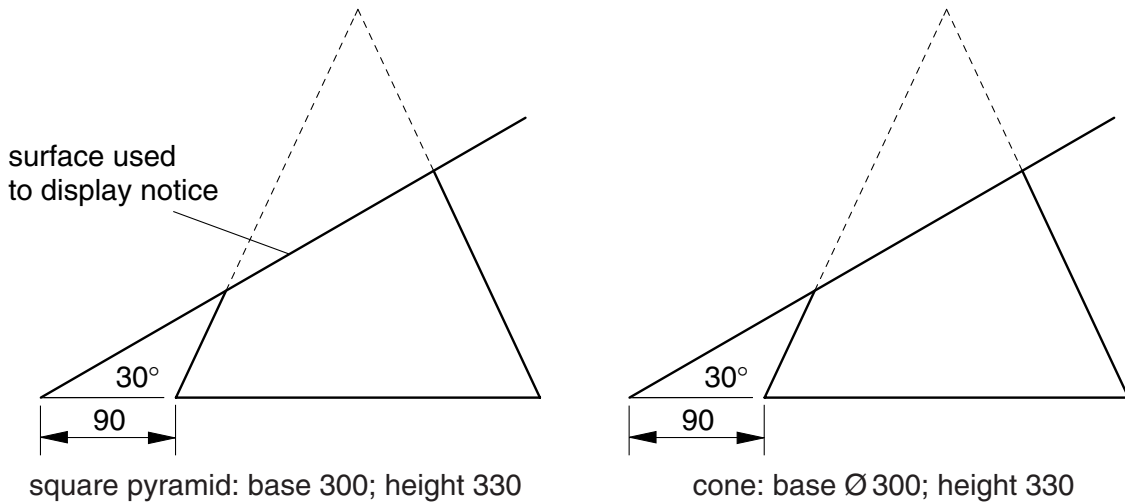

Fig. 8
- 8 Two models are required to help inform youngsters about the dangers of using fireworks. They are to be made from card, in the form of a truncated pyramid and a truncated cone. Details are given in Fig. 8